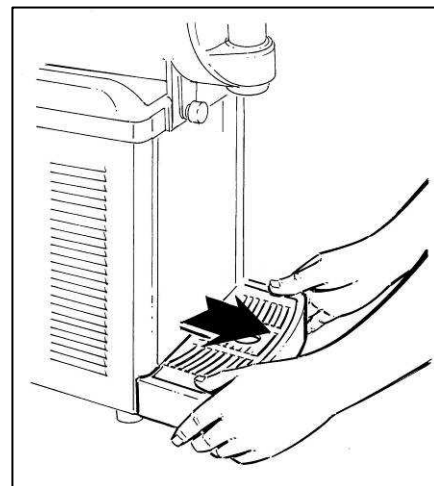

Fig. 18
- Remove the drip tray pulling it outward (fig.18).